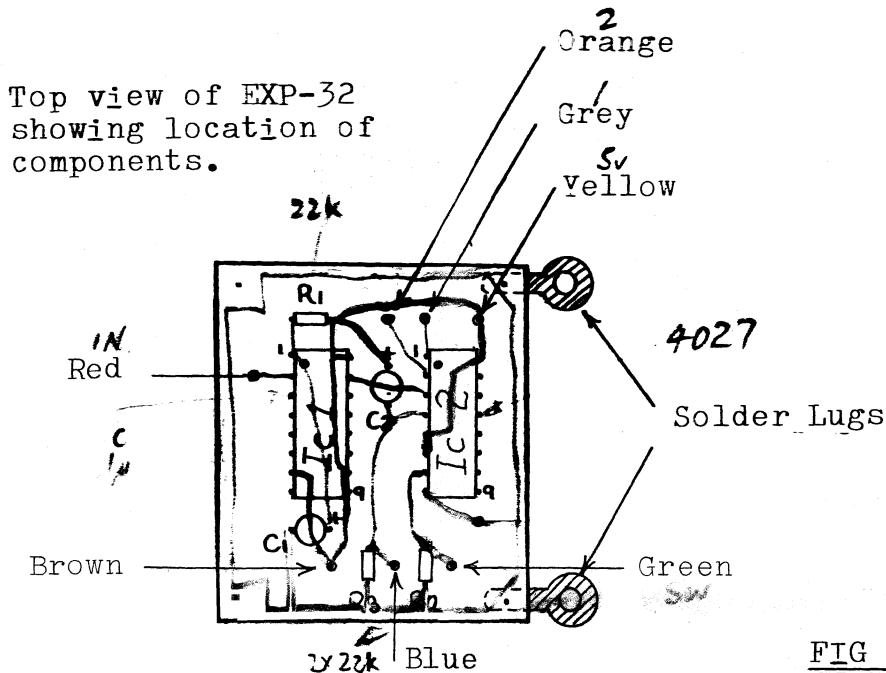

FIG 3
5. Mount R1, R2, R3, C1, C2, Ic1, & Ic2 on the EXP-32 circuit board, ensuring that polarities and configurations are correct. Solder the colour coded wires to the board as per fig 3.
6. The EXP-32 can now be mounted inside the SX-200. Solder the solder lugs to the EXP-32, ensuring that they make electrical contact with the ground fringe on the CCT Board. See fig 3.